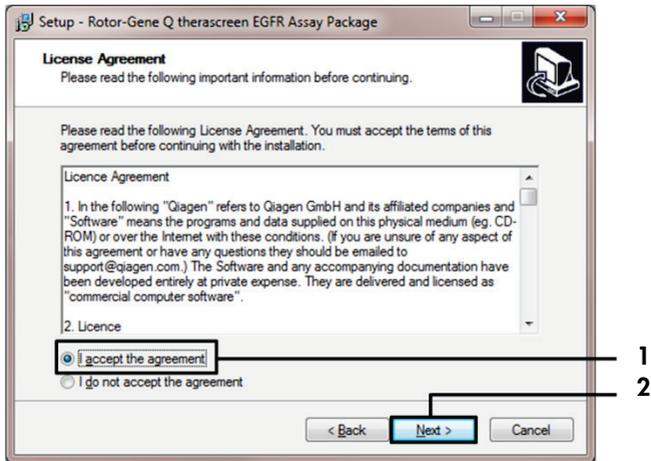

Figure 42. The “License Agreement” dialog box. 1 = “I accept the agreement”; 2 = “Next.”
7. Read the License Agreement in the dialog box and select **I accept the agreement**. Click **Next** to continue (Figure 42).